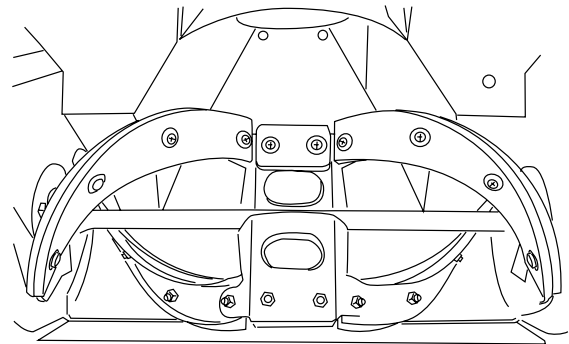

Figure 21
- Detach the worn rubber plate assembly by removing the 2 sets of nuts and bolts used to secure it (Fig. 21, 22).
3. Install the new rubber plate assembly by tightening 2 sets of nuts and bolts on both sides (Fig. 21).